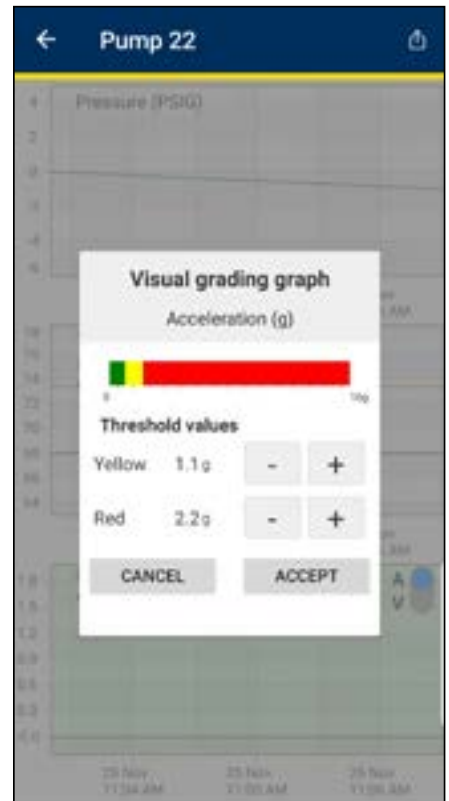

Figure 20
- Select "Accept" once you have entered the preferred threshold values (see figure 20).